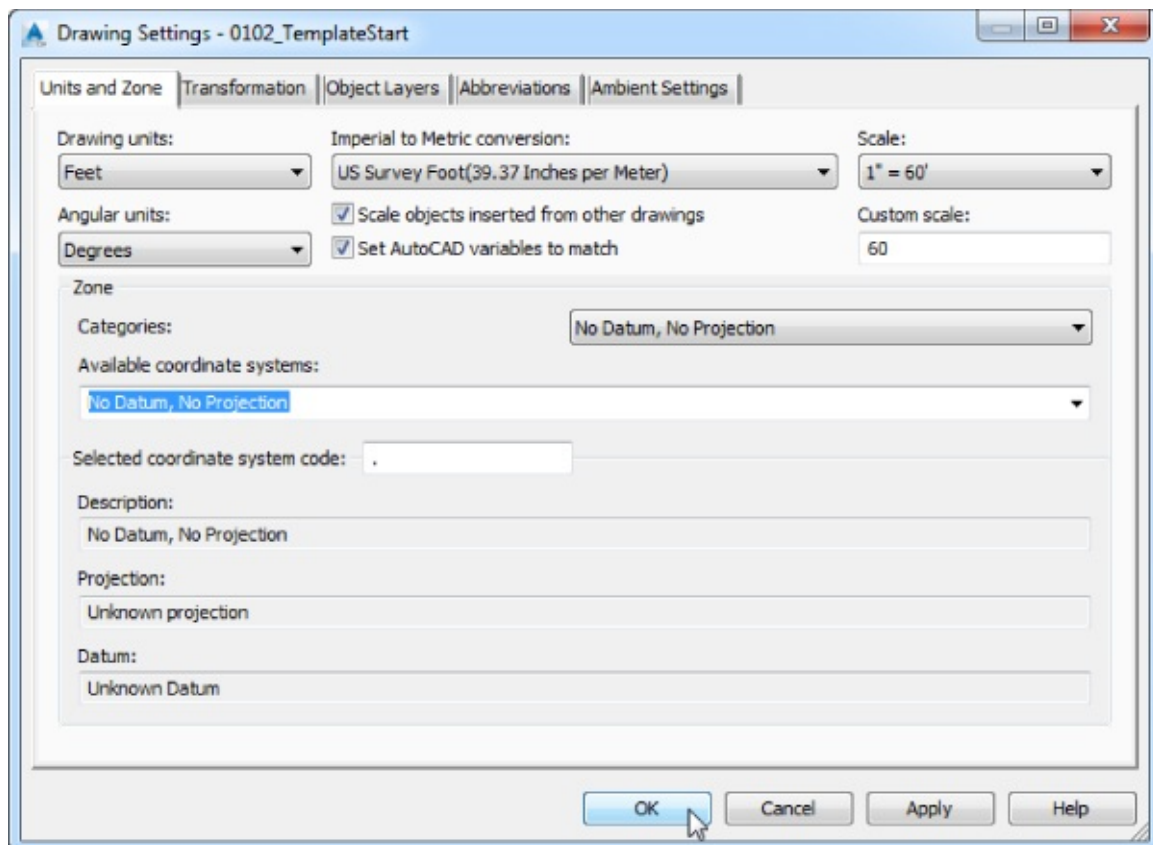

Figure 1.12 Before placing any project-specific information in a drawing, set the coordinate system in the Units And Zone tab of the Drawing Settings dialog.
This tab also includes the options Scale Objects Inserted From Other Drawings and Set AutoCAD Variables To Match. The Set AutoCAD Variables To Match option sets the base AutoCAD angular units, linear units, block insertion units, hatch pattern, and linetype units to match the values set in this dialog. As shown in Figure 1.12, even though these settings are enabled in the figure, the base template has them disabled in order to avoid issues that might arise based on work environments. So feel free to experiment with them and see how they affect your data.
4. Switch to the Units And Zone tab to display the options shown previously in Figure 1.12.